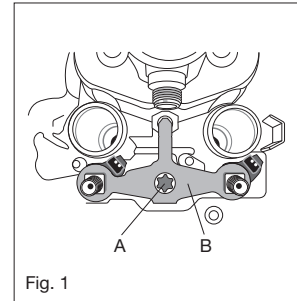

Fig. 1
1. Refer to Figure 1: First release set screw **A**.